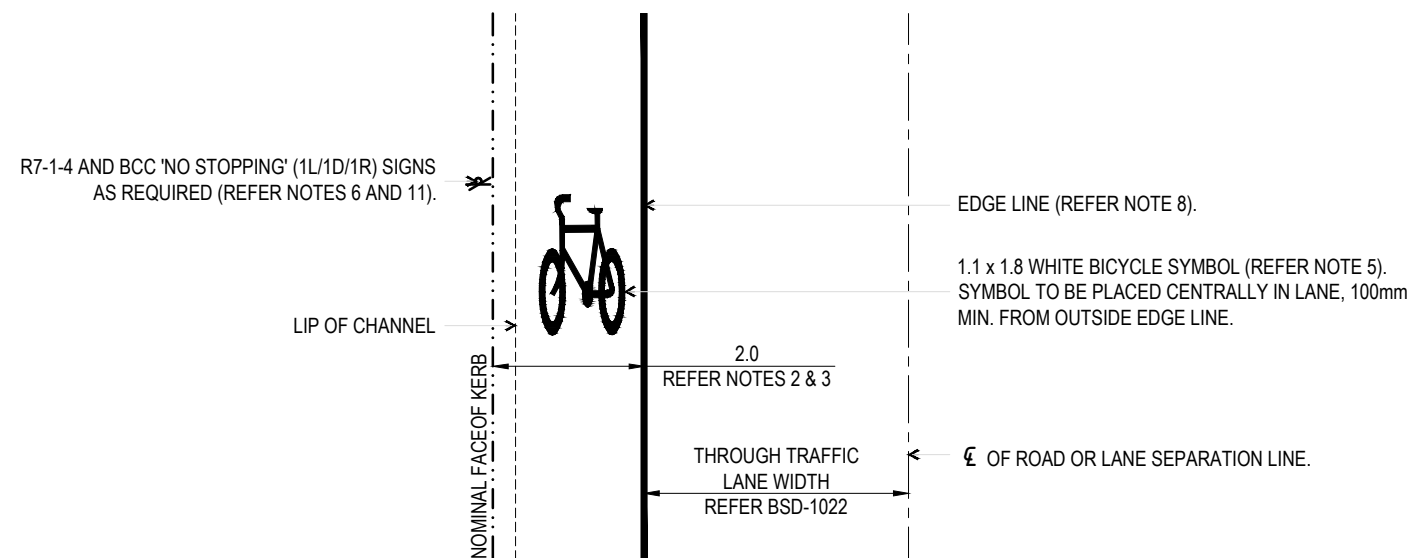

FIGURE 1
3. FOR BICYCLE LANES ADJACENT TO THE KERB (FIGURE 1), THE MINIMUM WIDTH IS TO BE MEASURED FROM NOMINAL FACE OF KERB AND IS TO BE 1.2m MEASURED FROM THE LIP OF THE CHANNEL (BOTH CRITERIA MUST BE MET WHEN CHANNEL IS PRESENT).